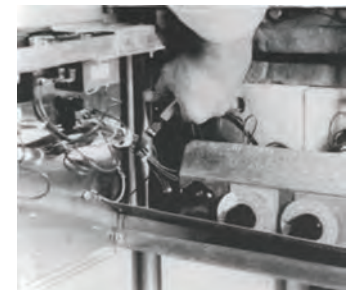

Figure 3
- A. Clip all main harness wires and operating thermostat capillary tube at wire clamp location on hinged side of escutcheon (See Figure 3). Remove the screw securing wire clamp to cabinet side.